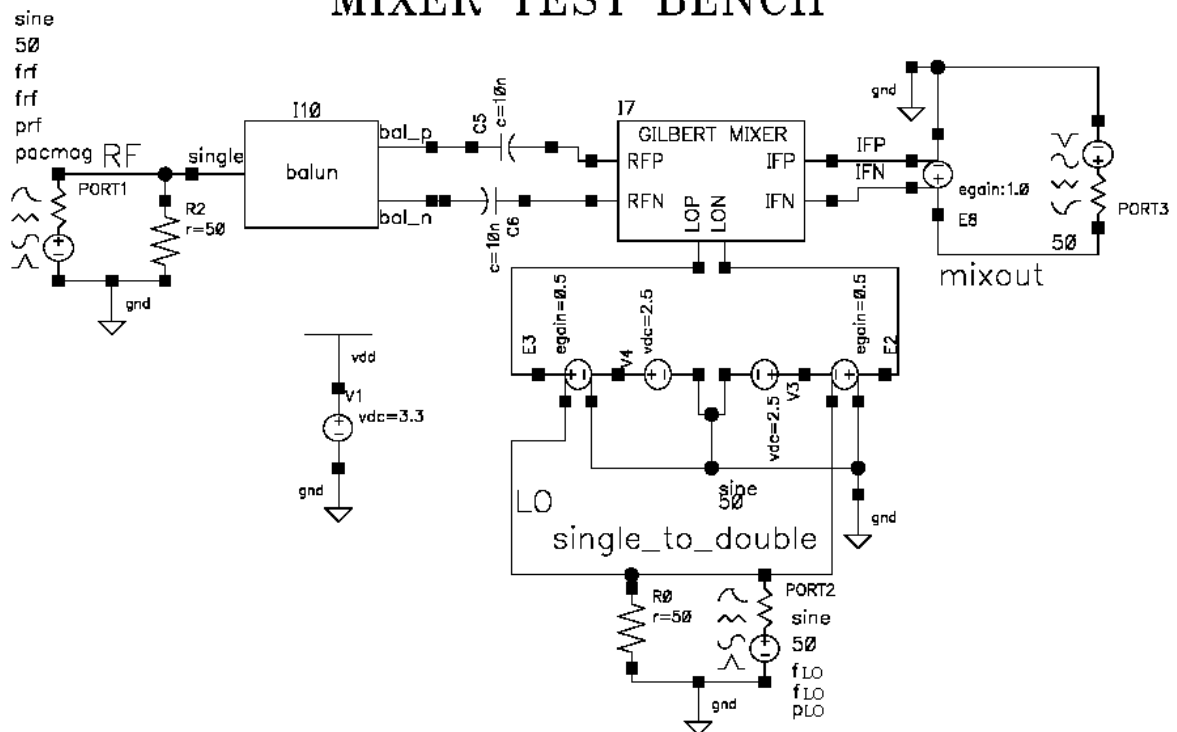

Fig 2: Test Bench of Gilbert Mixer
- Copy the **mixer_testbench** (Fig. 2) from the course library (it takes too long time to enter!), enter in the terminal window